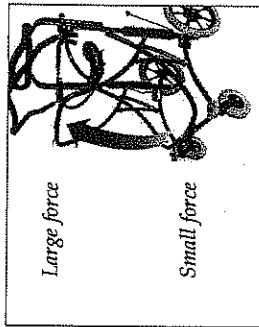

Figure 41
- Always hold the tilt bar securely when a user is being lifted or lowered. Especially when opening the tilt bar to lower the user, be prepared for an upwards-directed force which gradually increases as the tilt bar rises (see figure 41). Never let go of the tilt bar in the middle of a lifting or lowering operation, even if taken by surprise by the heavy weight effect.